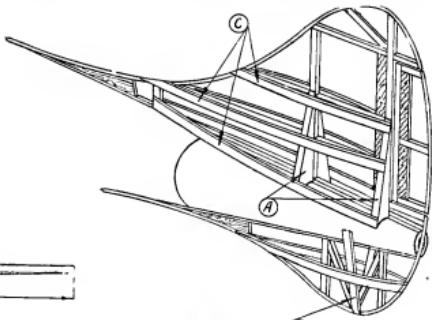

Fig. 153.
The rudder may now be finished. I feel that the drawing in Fig. 153 will explain the process better than many words. This illustration is an isometric drawing of the finished rudder frame, and I have omitted the stringers of the fuselage for the sake of clearness. As may be seen, the two uprights are supported on either side by small buttresses of balsa (A); while the underslung portion is strengthened by the addition of two small lengths of 3/32 in. × 1/16 in. balsa, which are cemented from stringers Nos. 6 and 11 down to the lower framework, in the form of a "V" (B). A symmetrical section is given to the rudder by the addition of strips of 1/32 in. balsa (C) cemented on as shown.